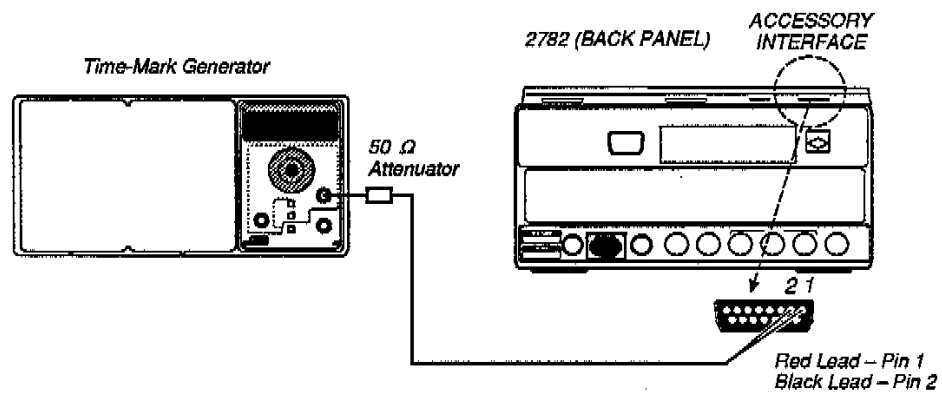

Figure 2-24. Test Equipment Connections for Sweep Speed Timing Accuracy Check.
- b. Connect the time-mark generator (through a 50Ω attenuator) to the video input of the Accessory Interface connector on the 2782 rear-panel (as shown in Figure 2-24). Use a 50Ω cable and the BNC-to-dual-pin-out cable (item 18 from the equipment list). The red lead goes to the pin 1 (the signal input) and the black lead goes to pin 2 (ground).